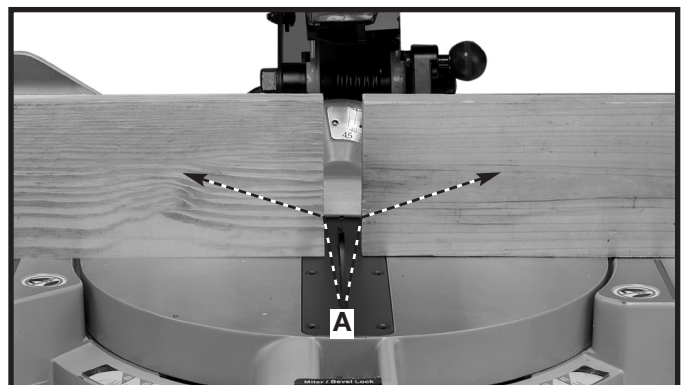

Fig. 30
**⚠ WARNING** When performing multiple or repetitive operations that result in small cut-off pieces (one inch or less), the saw blade can catch the cut-off pieces and project them out of the machine or into the blade guard and housing, causing damage or injury. To limit the risk, an auxiliary wood fence can be mounted to your saw (Fig. 30).